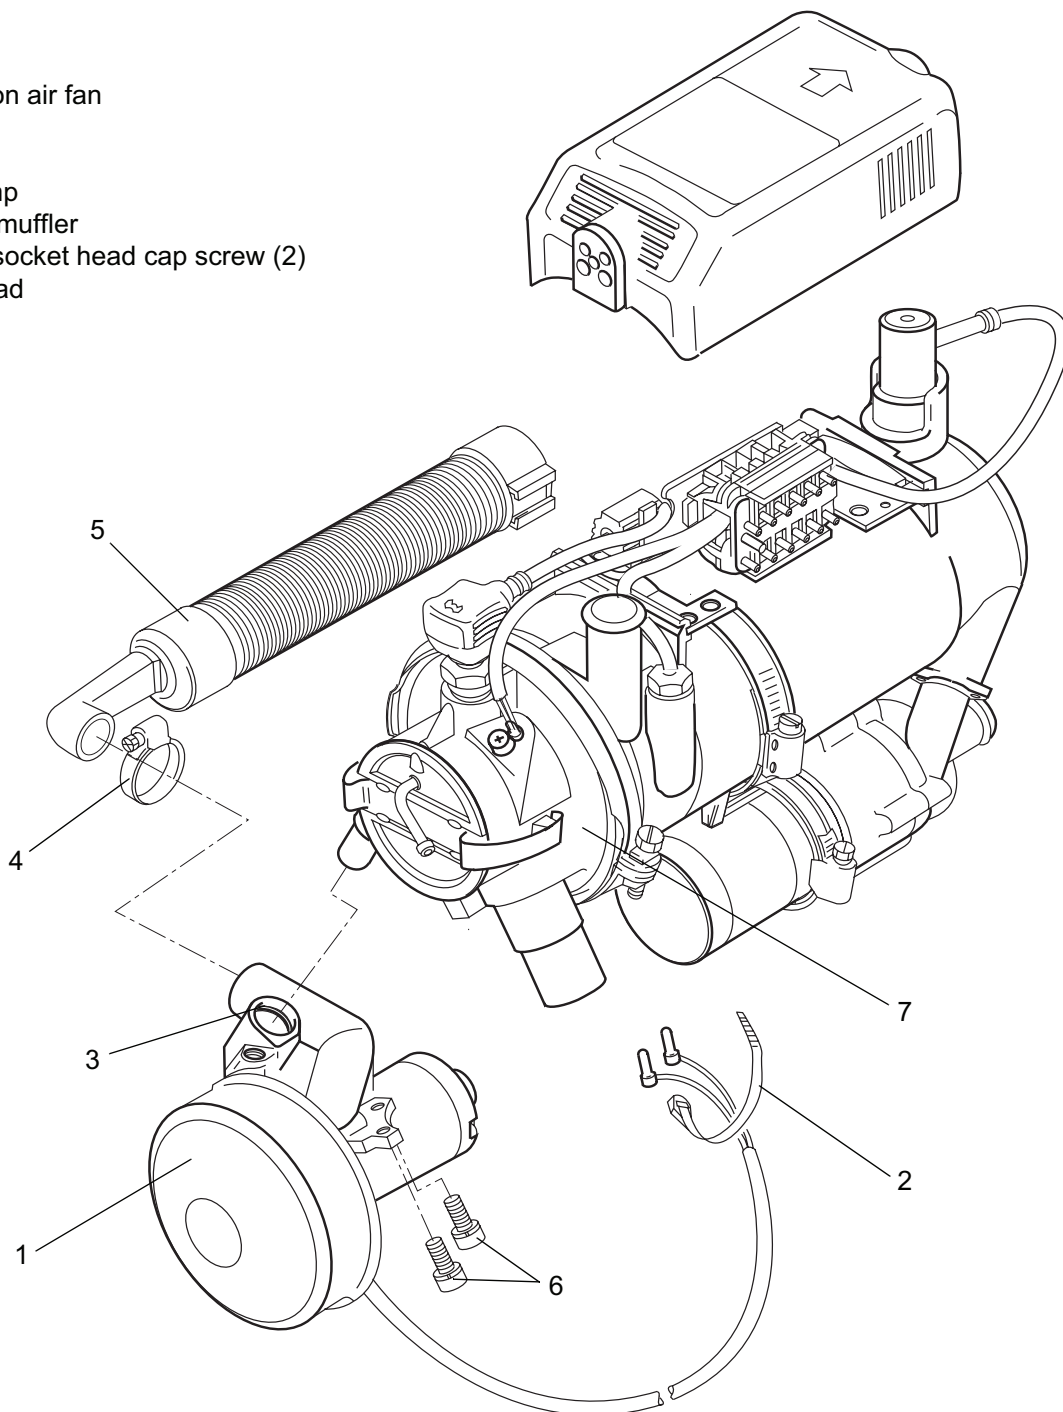

Fig. 904 Replacement of Combustion Air Fan
3. Loosen hose clamp (4, Fig. 904) on air intake muffler (5).
4. Loosen hexagon socket head cap screws (6).
5. Withdraw combustion air fan (1) from air intake muffler (5) and burner head (7) and remove.
1. Locate combustion air fan (1, Fig. 904) for assembly and slide onto air intake muffler (5) and burner head (7).
2. Screw hexagon socket head cap screws (6) into burner head and torque to 4.5 Nm.
3. Tighten hose clamp (4) on air intake muffler (5).
5. Secure cable with cable tie (2).